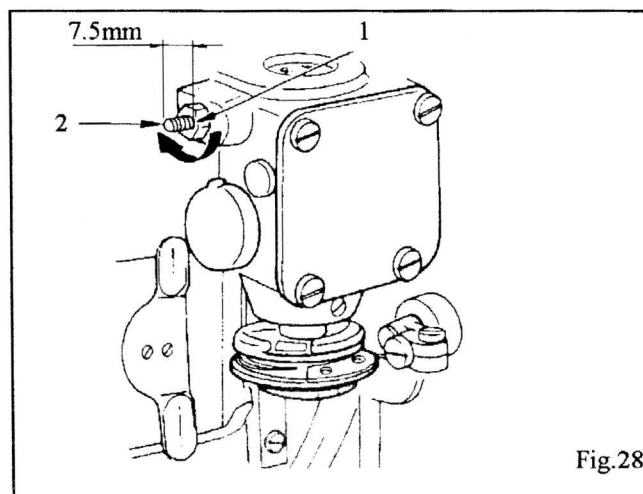

Fig.28
NOTE: If oil supply to sewing hook is still not sufficient even when oil flow regulating valve (1) is adjusted to maximum, loosen nut (1), Fig. 28, and turn oil flow regulating screw (2) in the direction of arrow (A).